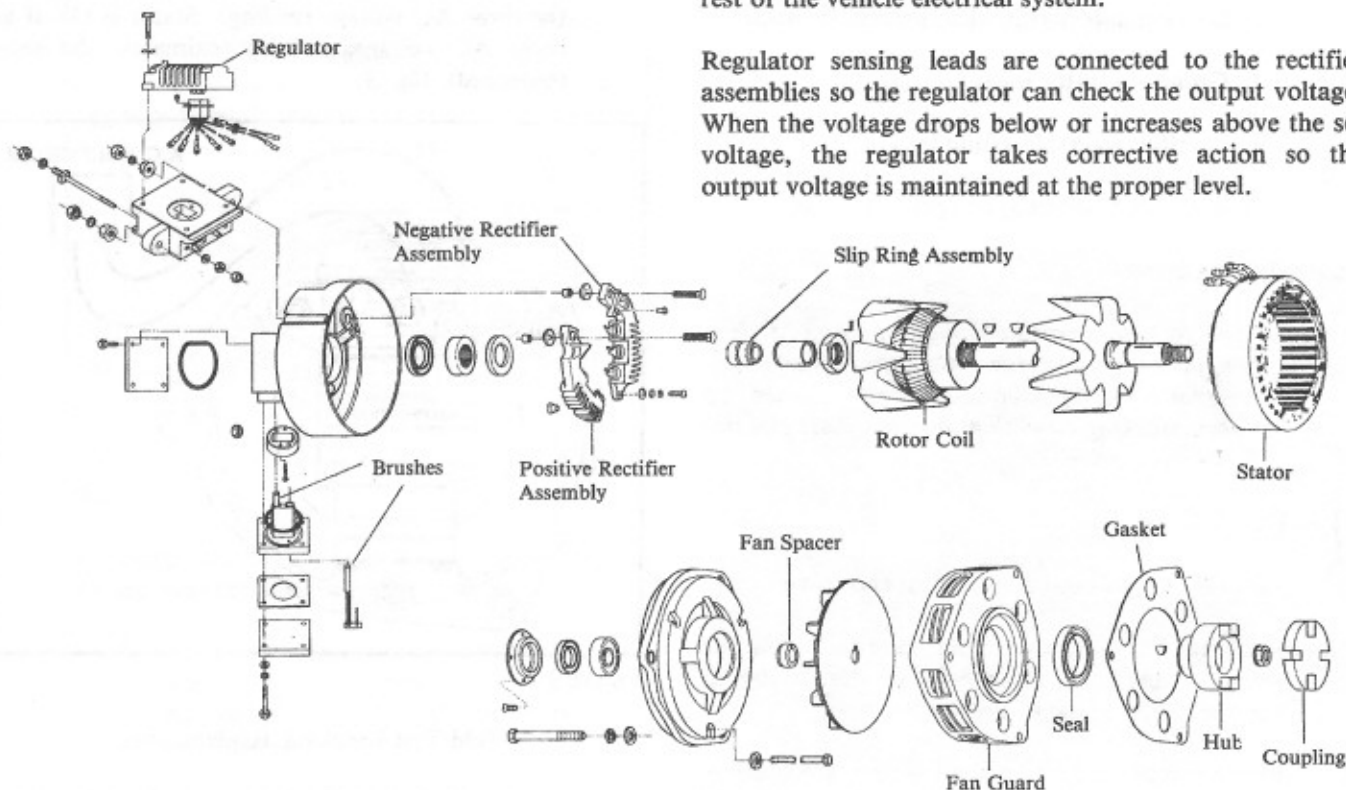

Figure 1
3. Remove fan guard and inspect gasket and oil seal. Replace as required. Fig. 1.